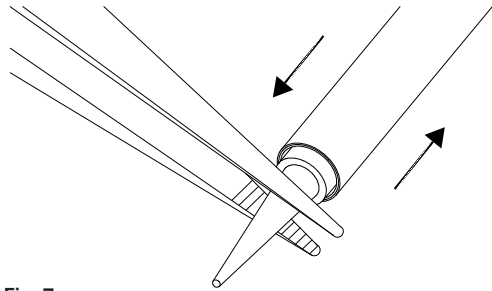

Fig. 7
2. Remove the tip and replace. (Fig.7)